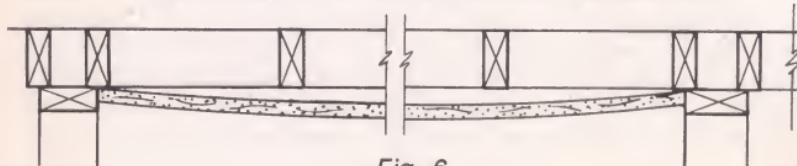

Fig. 6
**Cause:** Forcibly wedging an oversize panel into place bows the panel and builds in stresses preventing it from contacting the framing (Fig. 6). Result: following fastening, a high percentage of fasteners on the central studs probably will puncture the paper. May also cause joint deformation.